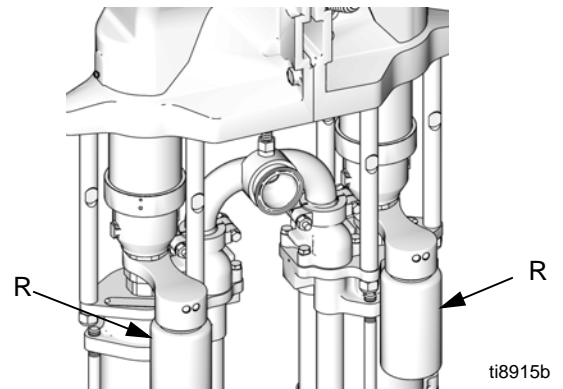

FIG. 6. Fill TSL Reservoirs
Part No. 206995 Throat Seal Liquid (TSL) carries residue from the pump rod into the reservoir. Fill the TSL reservoirs (R) with Graco 206994 Throat Seal Liquid (TSL). See FIG. 6. See **Changing the TSL** on page 17 for fill instructions.